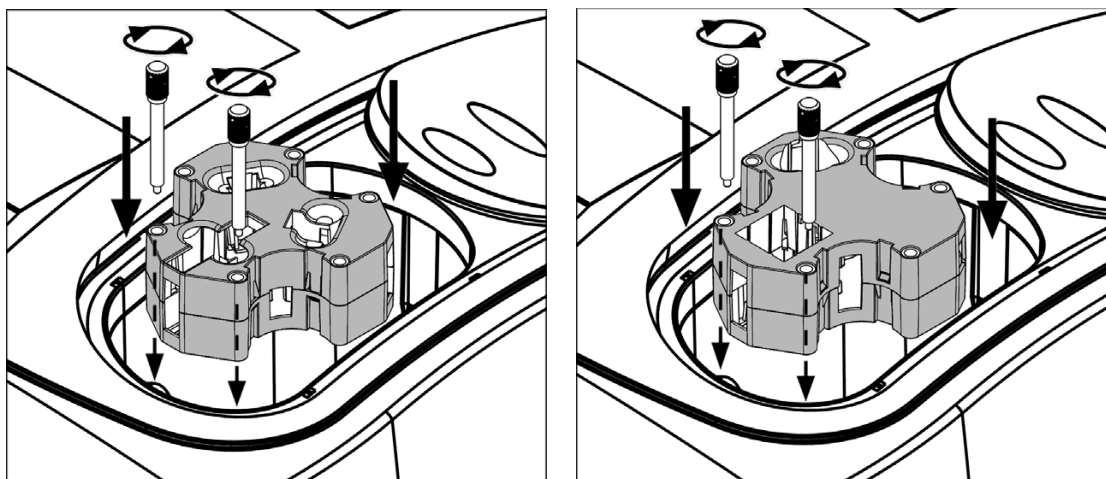

Figure 5 Installation Multi Cell Holder
3. Insert the Multi Cell Holder in the cell compartment in such a way that the name of the selected cell type can be read directly and the cell opening is at the front. Secure the holder with two locking screws (Figure 5).